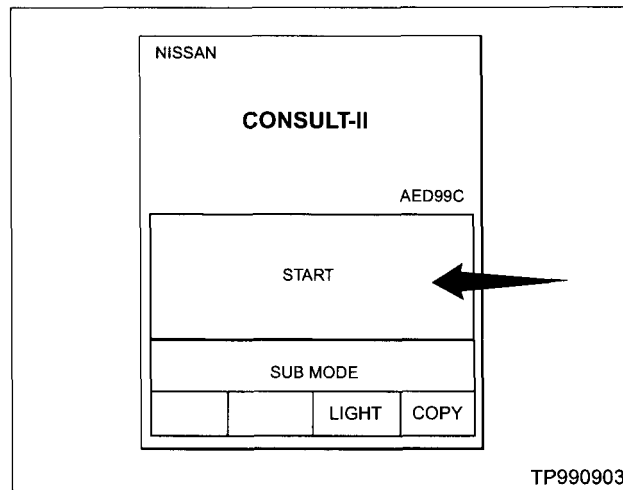

Figure 15
16. Turn "ON" the ignition switch (do not start the engine). CONSULT-II will turn on automatically (see Figure 15).